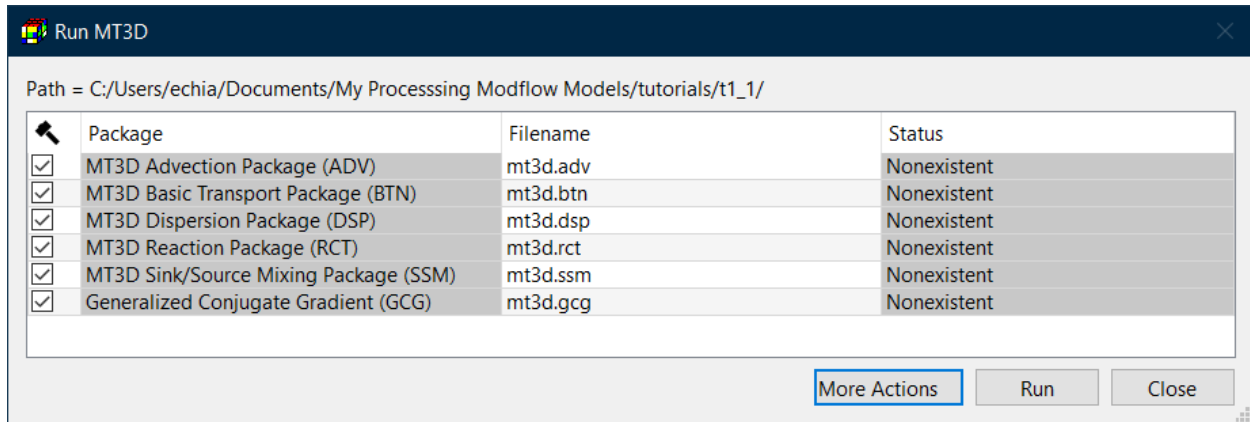

Figure 28. The Run MT3D dialog box
1. Select Models > MT3D/SEAWAT > Run to display the Run MT3D dialog box (Figure 28).